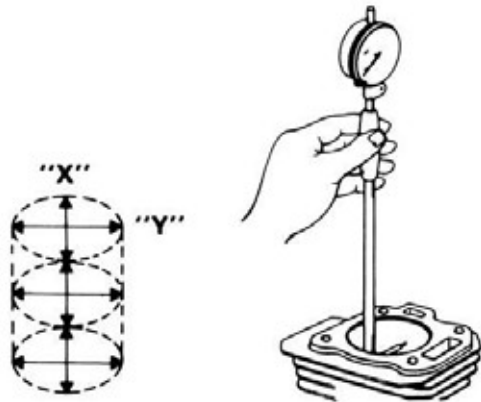

Figure 4-32: Checking Cylinder Bore Service Limit
1. See Figure 4-32. Inspect piston pin for damage and measure piston pin.